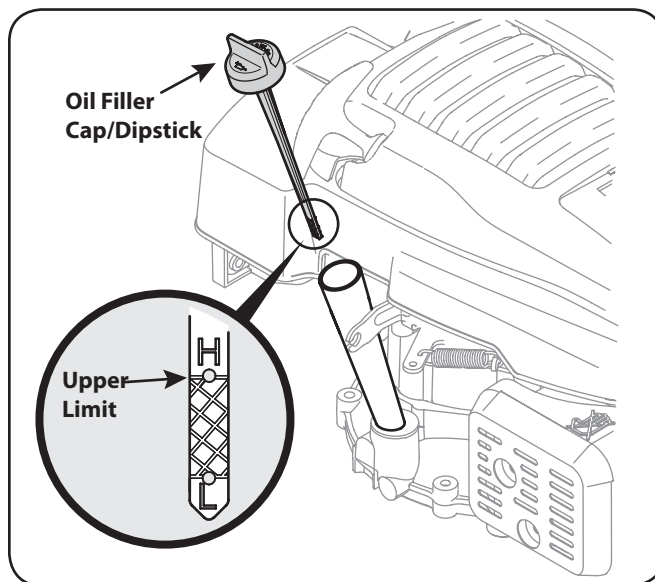

Figure 3-2
3. Remove dipstick. If the level is low, slowly add oil to the upper limit on the dipstick. See Figure 3-2 inset.